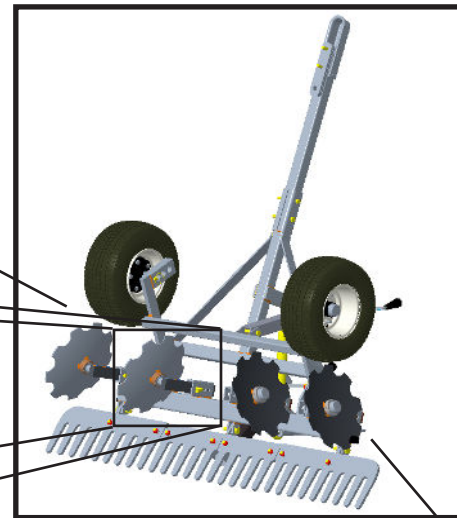
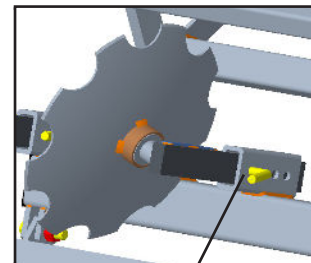

Fig 10
Fig 11
- Recommend pinning hole in disc shank closest to disc into lowest hole in pocket (farthest from main frame) (**Fig 10** and **Fig 11**).